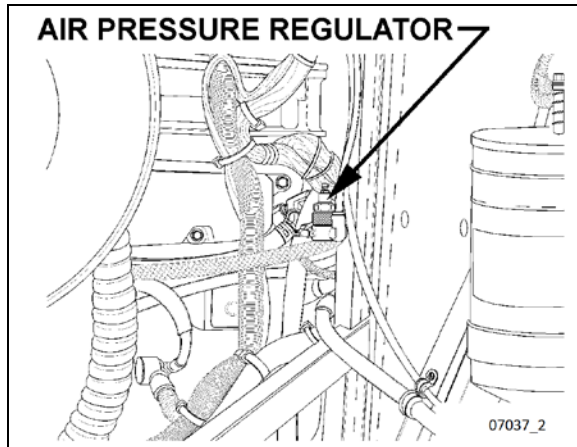

FIGURE 14: AIR PRESSURE REGULATOR (TYPICAL)
24. Adjust the retarder pressure to 80 ± 3 psi with the air pressure regulator. For more information refer to Section 12, "BRAKE AND AIR SYSTEM", under heading "AIR PRESSURE REGULATOR". The air pressure regulator is located at back of engine compartment, on R.H. side (Figure 14) or in the R.H. side rear service compartment.